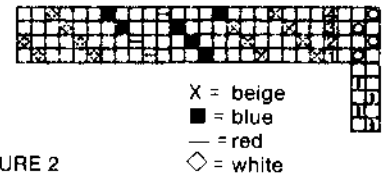

FIGURE 2
**Threading, tie-up, and treadling:** See Fig. 2.